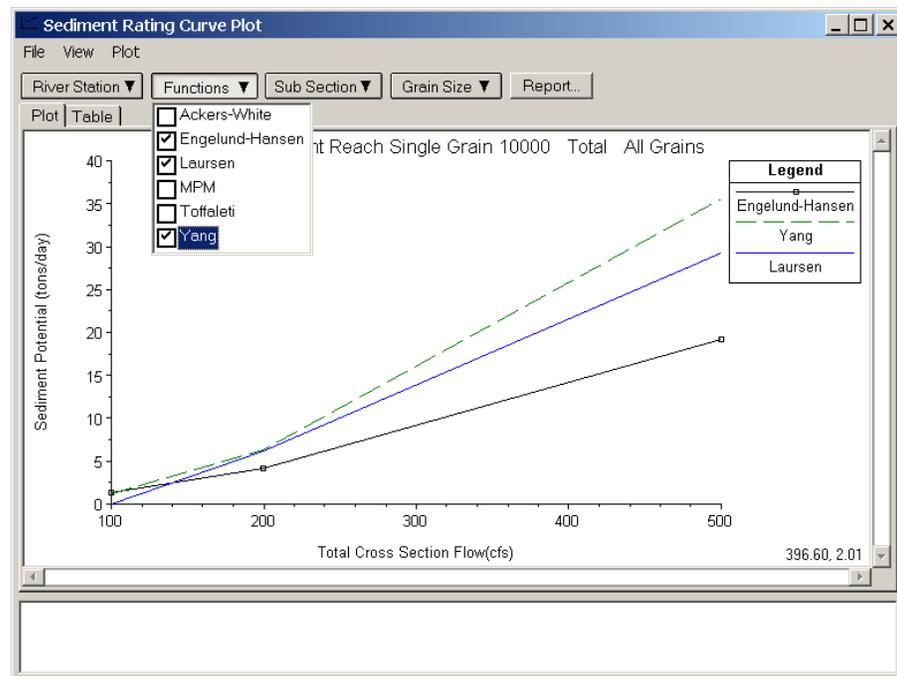

Figure 15.13 Sediment Transport Capacity Rating Curve
**Sediment Rating Curve Plot/Table:** This button displays a plot of the sediment transport capacity rates for a selected cross section within a sediment reach. It is only enabled once computations for that reach have been performed. Display options can be selected from the dropdown buttons. Figure 15.13 shows a sediment rating curve plot. In addition to viewing the plots, the table tab can be clicked to view in tabular form.